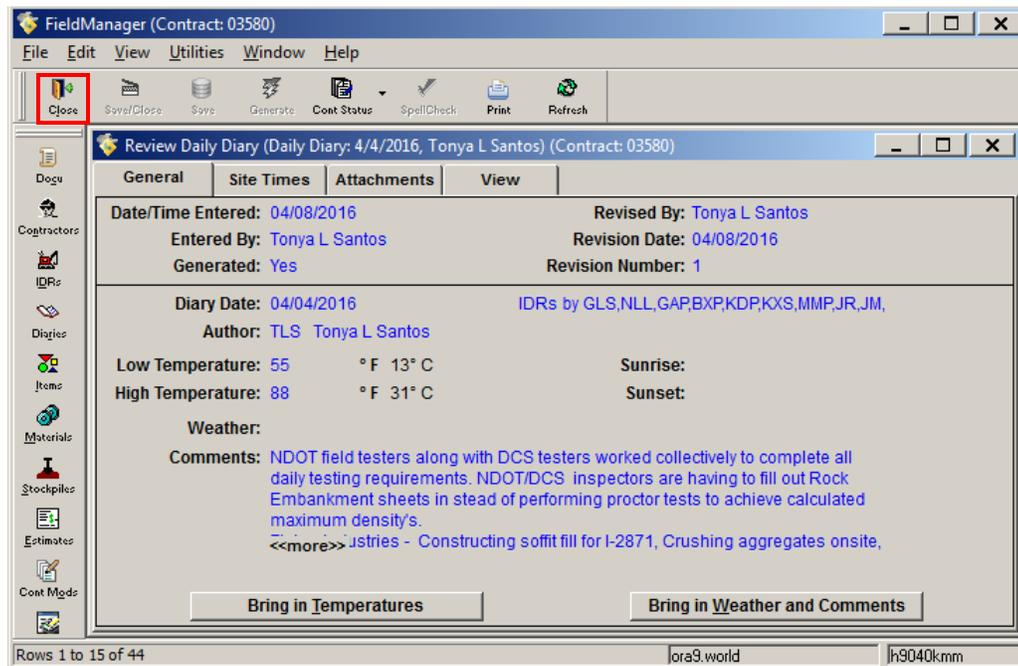

Figure 8-19. Review Daily Diary Tab Window – General Tab
2. The Review Daily Diary tab window opens in the **General** tab in a mode in which you can view, but not change information (Figure 8-19).
4. Click **Close** on the Application Toolbar to close the Review Item tab window and return to the Daily Diary list window (Figure 8-19).